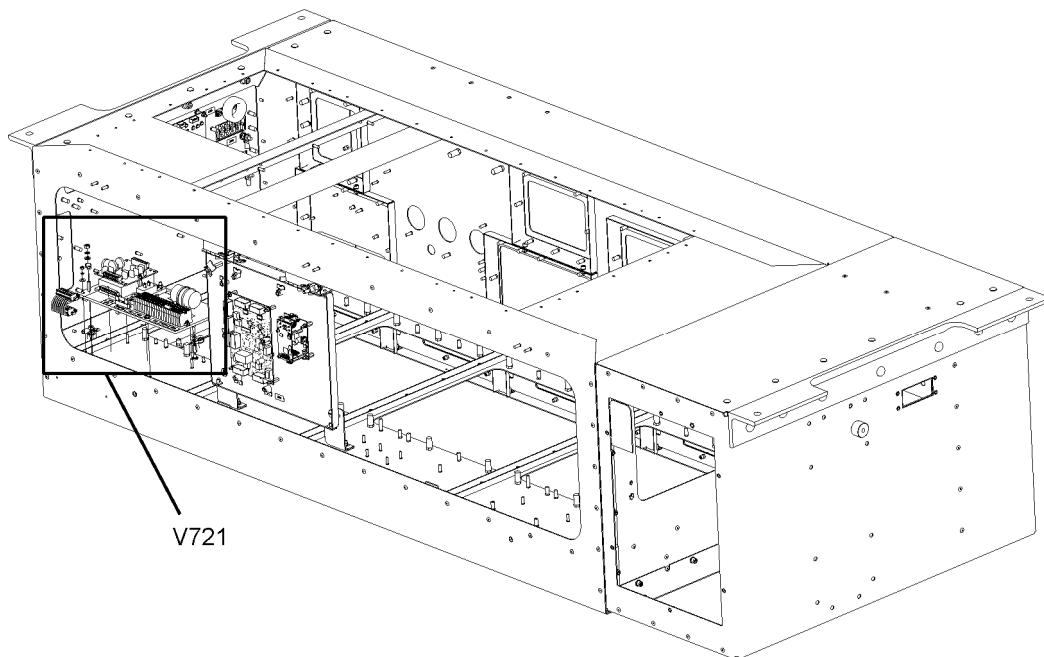

Figure 5-66: Location of V721
3. Locate V721. See Figure 5-66 for the location of V721.